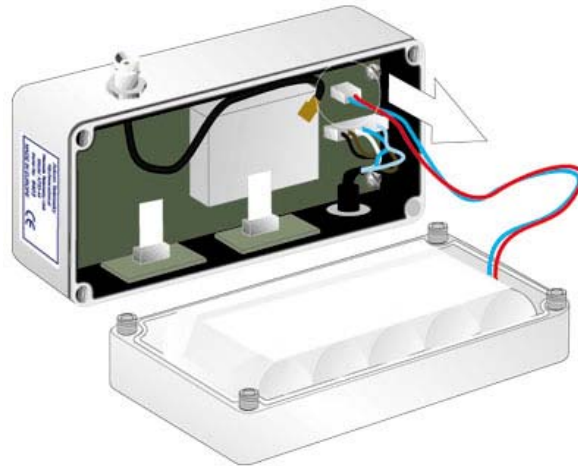

Fig. 7: Unplugging the PCB Connector
2. The battery pack is connected to the electronics board by means of a PCB connector. Remove the battery pack’s plug from the PCB connector, as shown in Fig. 7.